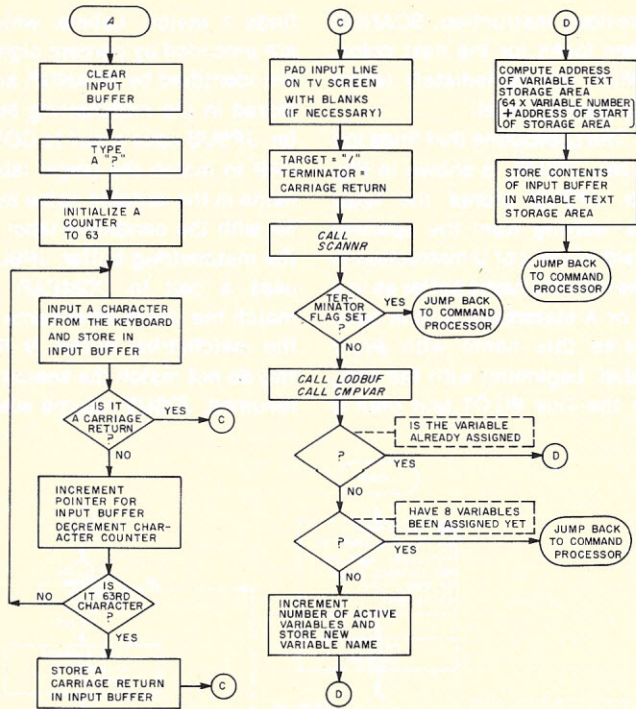

Fig. 4. The A instruction processor.
Fig. 4 is a flowchart of the A instruction processor. Conceptually, the processor performs six tasks: (1) It clears the 64 character input buffer. (2) It fills the input buffer from the keyboard. (3) It checks the operand field of the A statement to see if the contents of the input buffer are to be stored as a variable. (4) If so, it compares the variable name to those already in use to see if an old variable is being refilled. (5) If necessary, it stores the new variable name and increments the number of active variables. (6) It stores the contents of the input buffer in the first free 64-byte block of the variable text storage area.